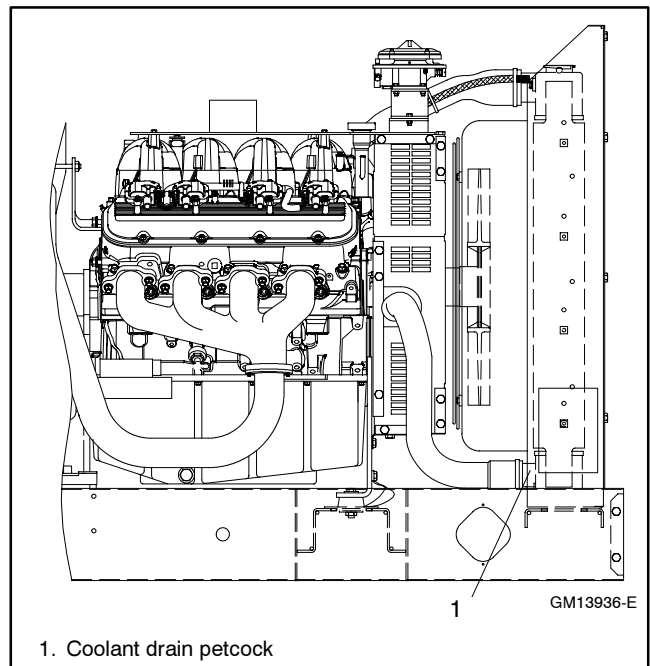

Figure 1 Coolant Drain Location
3. Open the coolant drain petcock and allow the coolant to drain into a suitable container. See Figure 1.